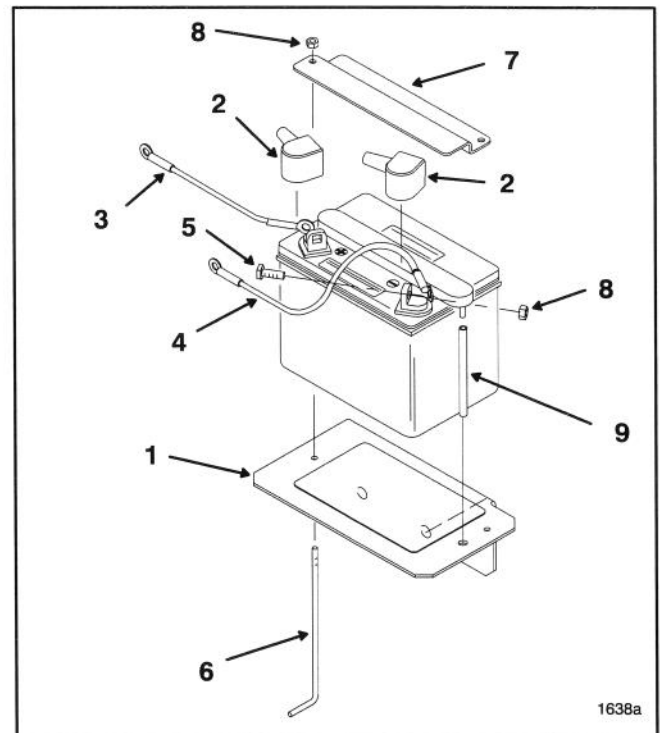

Figure 7
3. Position battery onto holder with terminal posts away from the engine (Fig. 7).
6. Mount battery to holder with (2) support rods, a battery clamp and (2) locknuts. Position support rods in mounting holes (Fig. 7). Tighten locknuts so battery is held securely in position and will not slide. **DO NOT OVERTIGHTEN.**